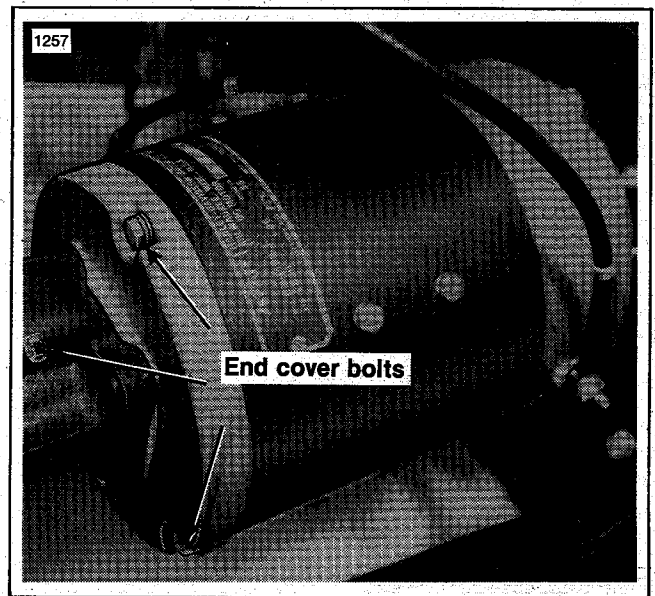

Figure 2-27. End Cover Bolts (3-AMF) (4-Hitachi)
4. Remove end cover bolts, and remove traction motor from end cover (Figure 2-27).
6. Install end cover bolts (Figure 2-27) and tighten to 90-100 in-lbs (6.3-7 kgc) torque.